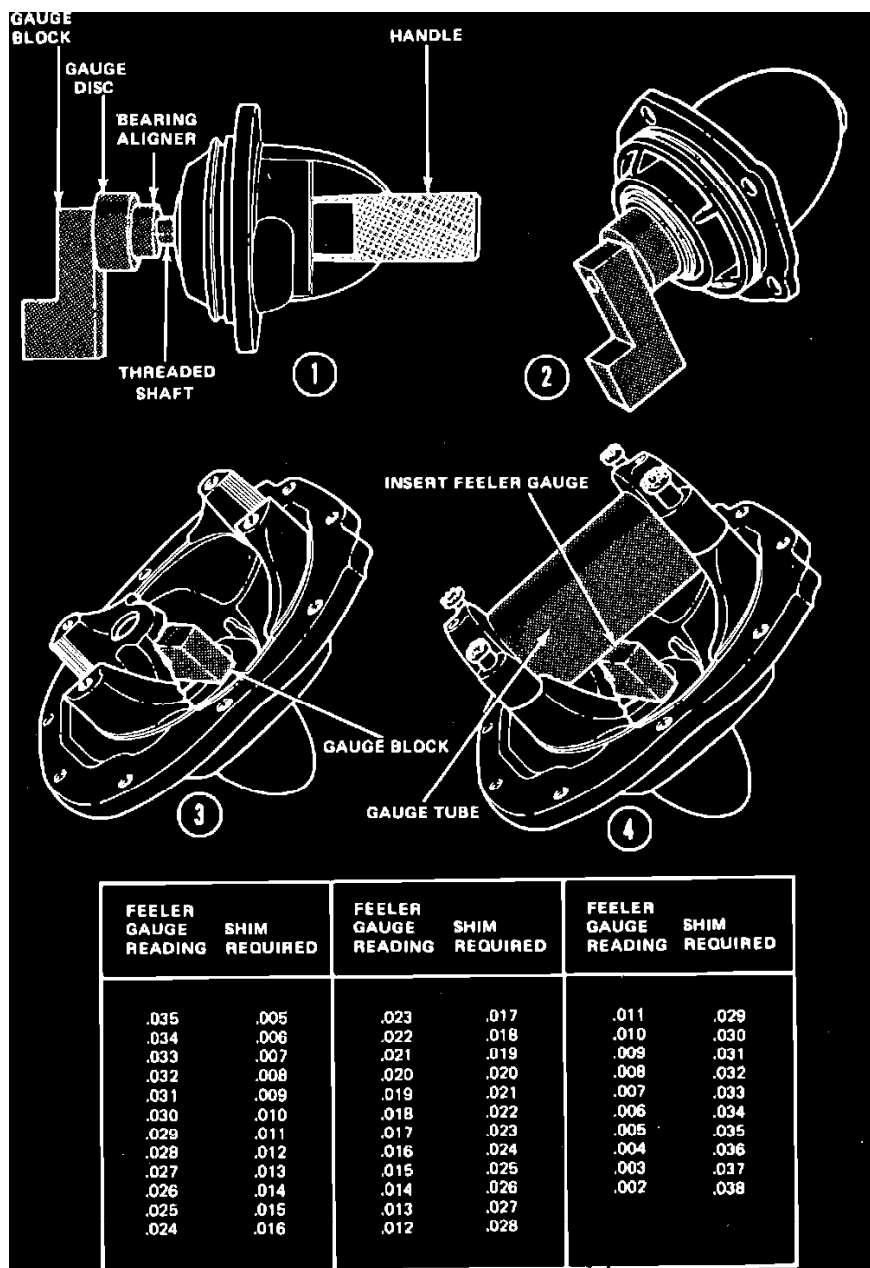

Fig. 6 Using pinion depth gauge tool
2. Install gauge block on threaded shaft and tighten securely, Fig. 6 (1).
3. Place assembly and rear drive pinion bearing into pinion bearing retainer assembly, then install front pinion bearing and screw handle onto threaded shaft, tapered end into front pinion bearing, Fig. 6 (1) and (2). Flat end of handle has 3/8 inch hole cut in it so that an inch pound torque wrench may be used to obtain proper pinion bearing preload.